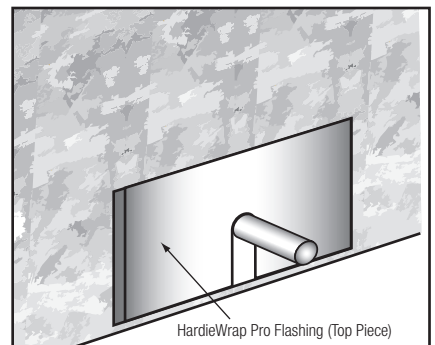

figure 8
Follow previous instructions for proper installation prior to head flashing installation. Install circular top windows according to window manufacturer's installation guidelines, and then follow instructions as illustrated in figures 8–11 to complete the process.
Measure the circular portion of the window and add 12 in. to this number. Cut HardieWrap® Flex Flashing to this length for the head flashing. Remove approximately 20 in. of release paper and position HardieWrap® Flex Flashing tightly along the first edge of round window. Press firmly into place (figs. 8 and 9). Continue removing release paper and conform HardieWrap Flex Flashing to entire circular portion of window (fig. 10). Use HardieWrap® Seam Tape or mechanical fasteners (i.e., nails, staples or screws) to temporarily hold top edge of head flashing to wall. HardieWrap Flex Flashing adhesive bond will strengthen over time. Both ends of head flashing should overlap sill flashings by at least 6 in.
**figure 8****figure 9****figure 10****figure 11**